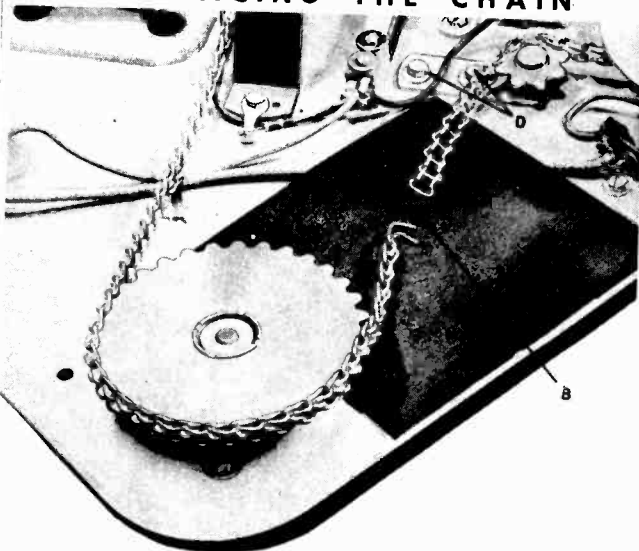

Fig. 14. Replacing the Chain.
The chain may be removed by loosening the adjustable idler (Screws "D," Fig. 14), and opening one of the links (B). It will be noted that on some models the open ends of the links face inward while on others outward as in Fig. 14. The reason for this is to get the quietest operation. Normally the open ends of the links will face outward with all replacement chains.